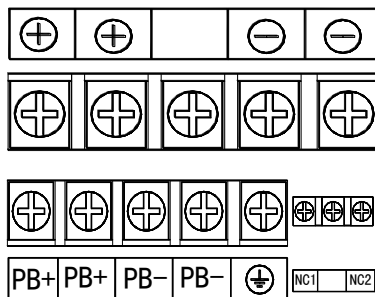

Figure 5-5 Main Circuit Terminal Block of BR100-315
- BR100-315 Main circuit terminal as shown in Figure 5-5